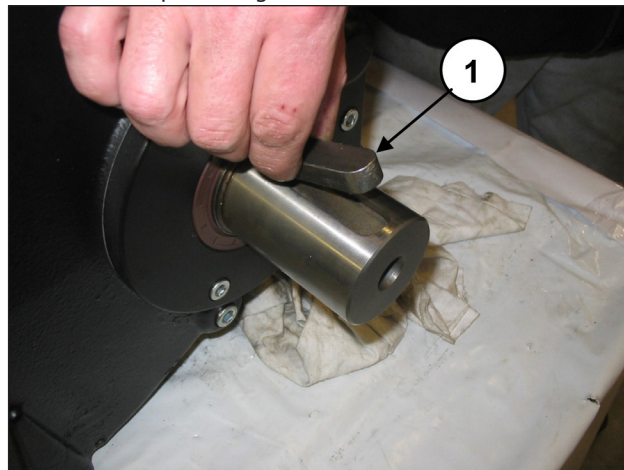

Fig. 2
Drain the pump of oil completely and then remove the tab from the shaft (pos. ①, Fig. 2).